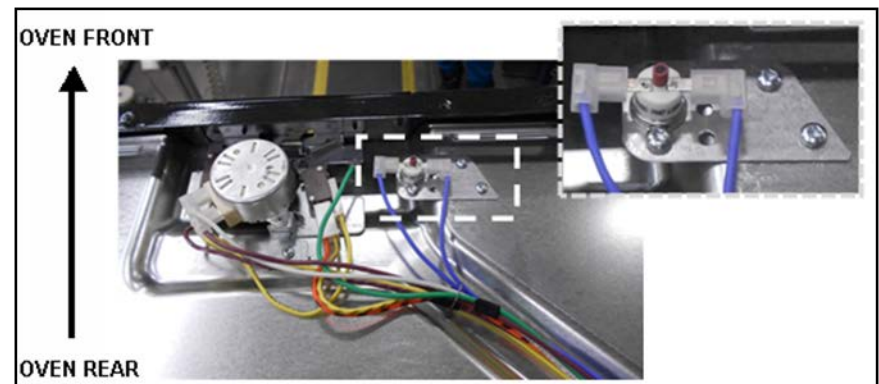

Figure 22 HTC and mounting bracket
8. Remove all of parts identified with a ✓ in Figure 22, labeling wires prior to disconnecting, as necessary, until the top insulation retainer is reached and the HTC is accessible.